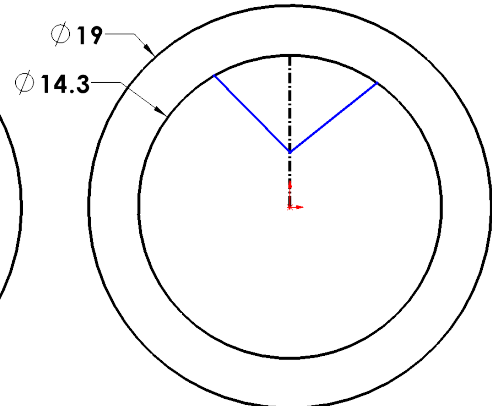

Fig. 4
Step 9. Click **Line**  (L) on the Sketch toolbar.
Step 10. Sketch a **line from inside circle at angle down part way to centerline and line back up to circle**, **Fig. 4**.